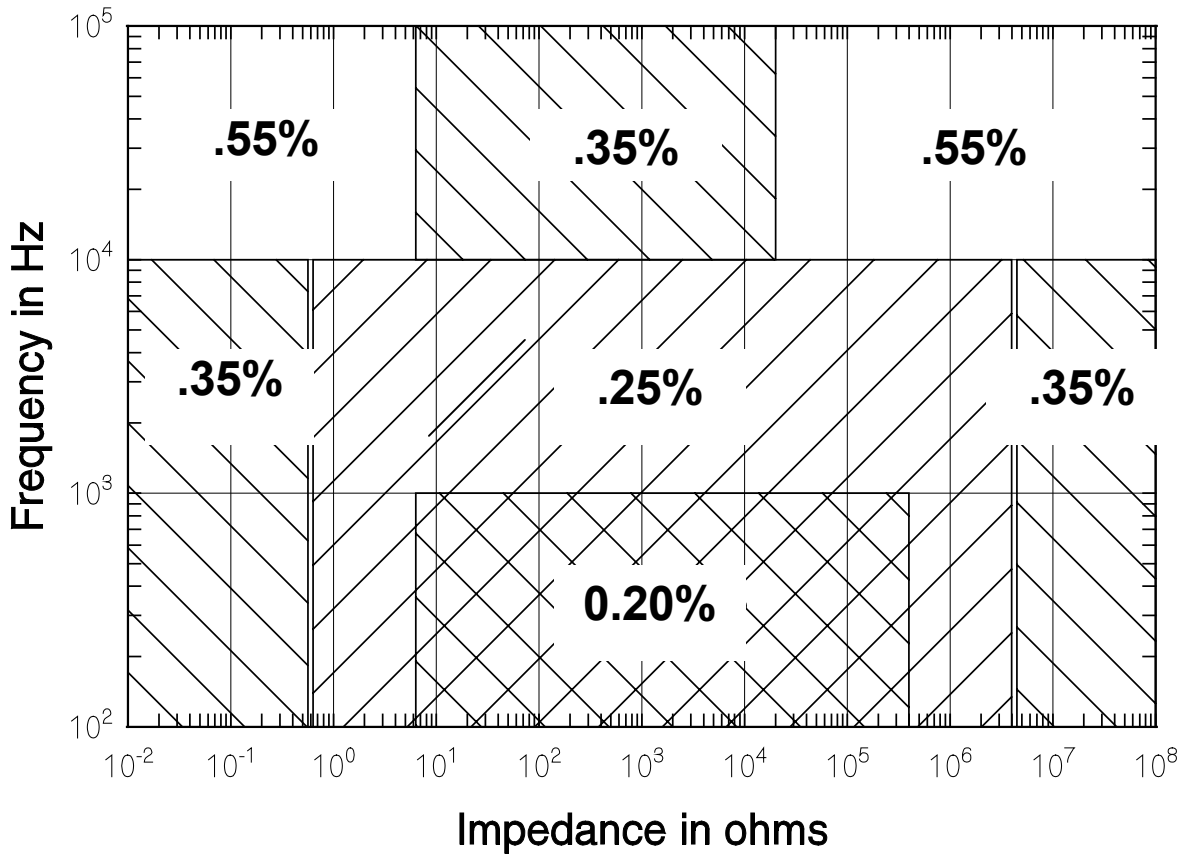
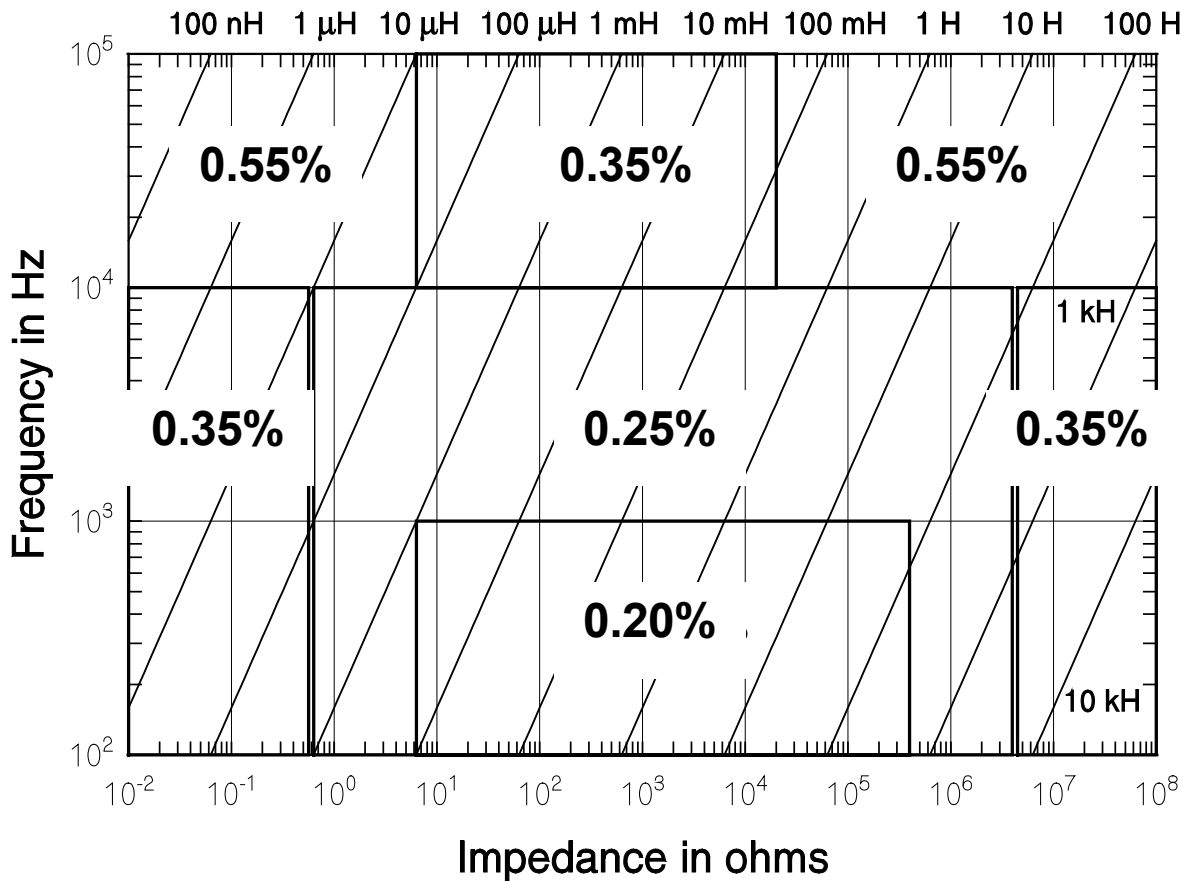
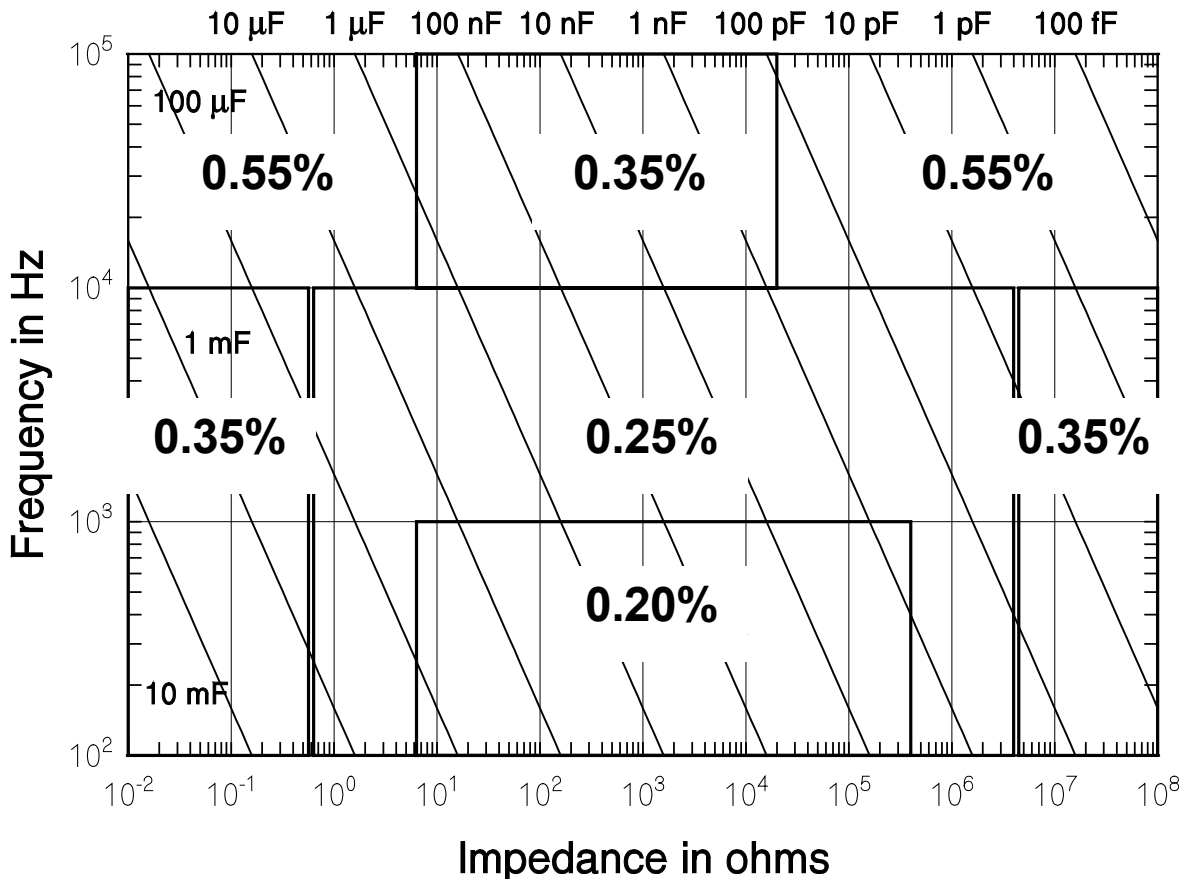

Figure 2-1 Basic Impedance Accuracy
Figure 2-2 Basic Impedance Accuracy for Inductance
Figure 2-3 Basic Impedance Accuracy for Capacitances
A_z = the basic impedance accuracy from Figure 2-1, which should be multiplied by two if the unit is in constant voltage mode. Figure 2-1 is based on the fact that the best accuracy occurs when the impedance to be measured is greater than $\frac{1}{4}$ the source resistance and less than 4 times that resistance, and when the test frequency is 1 kHz or less.
In the R + Q measurement mode, the basic impedance accuracy, A_z , in equation (1), may be read from Figure 2-1 directly while interpreting the “impedance” as “resistance.” The resistance accuracy is calculated from equation (2a), with the additional stipulation that if the measured Q has an absolute value greater than 0.1, then the basic resistance accuracy factor should be multiplied by the factor $(1 + |Q|)$.
Where $A_{r(\text{measured})} \%$ is the measured or published resistance accuracy and A_r is the basic resistance accuracy. The basic resistance accuracy, A_r , which can be taken from Figure 2-1 by substituting impedance, Z, with resistance, R.
The basic impedance accuracy depicted in Figure 2-1 applies to inductance measurements when the impedance is interpreted to be $2\pi fL$, where f is the test frequency in Hz and L is the inductance in Henrys. For convenience, Figure 2-1 is redrawn as Figure 2-2 with lines of constant inductance superimposed. Also, Table 2-3 is recreated for inductive impedances and named as Table 2-4. Note from Table 2-4 that the range error factor K_l is negligible for inductances above $15.9/f$ H and K_h is negligible for inductances below $159/f$ H.
The basic impedance accuracy depicted in Figure 2-1 applies to capacitance measurements when the impedance is interpreted to be $1/2\pi f C$, where f is the test frequency in Hz and C is the capacitance in Farads. For convenience, Figure 2-1 is redrawn in Figure 2-3 with lines of constant capacitance superimposed. Also, Table 2-3 is recreated for capacitive impedances as Table 2-5. Note from Table 2-5 that the range error factor K_i is negligible for capacitances below $1590/f \mu\text{F}$ and K_h is negligible for capacitances above $159/f \mu\text{F}$.
The basic impedance accuracy depicted in Figure 2-1 applies to capacitance measurements when the impedance is interpreted to be $1/2\pi f C$, where f is the test frequency in Hz and C is the capacitance in Farads. For convenience, Figure 2-1 is redrawn in Figure 2-3 with lines of constant capacitance superimposed. Also, Table 2-3 is recreated for capacitive impedances in the C + R measurement mode as Table 2-6. Note from Table 2-6 that the range error factor K_l is negligible for capacitances below $1590/f \mu\text{F}$